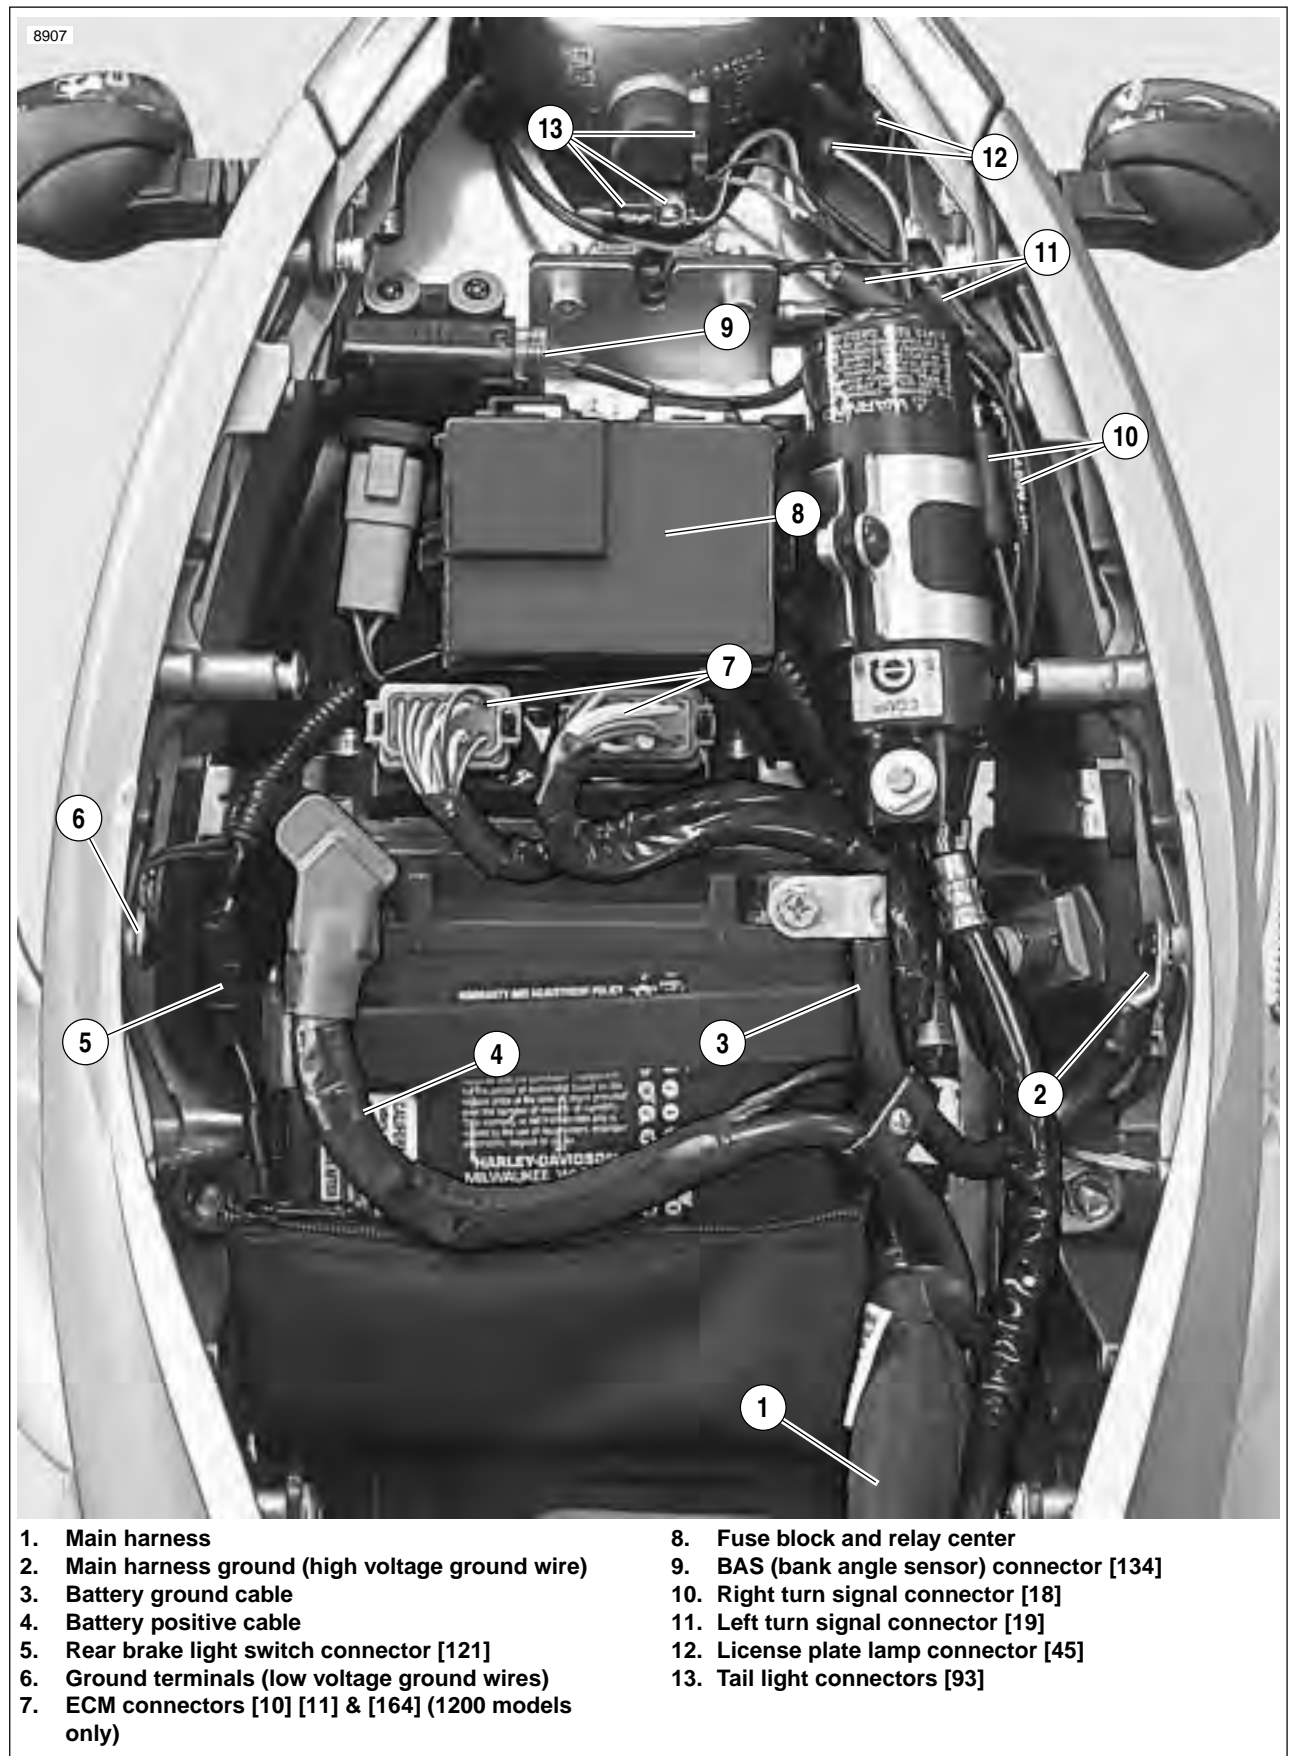

Figure 7-87. Main Harness and Electrical Connectors Under Seat
See Figure 7-87. Always align harness when installing in the frame and tail section. Align the harness so both ECM wire bundles, the dyno loop and the main ground all face upward so when they are installed the harness will not be twisted.
20. See Figure 7-87. Connect: